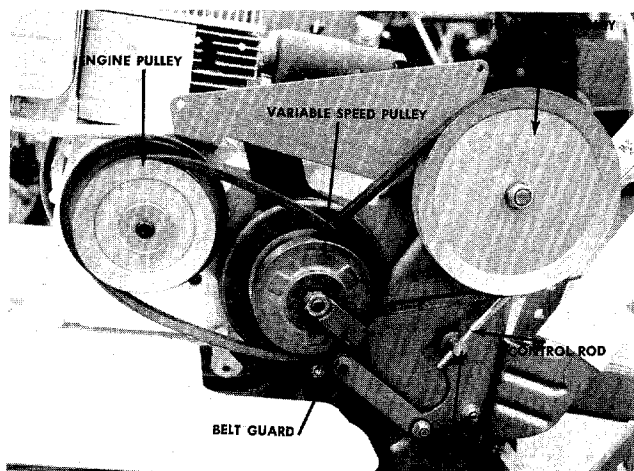

FIGURE 4-6. DRIVE SYSTEM
To check the belt adjustment, it is necessary to remove the belt cover so the belts are exposed as shown in Figure 4-6.
Step 1. Remove the belt cover so the belts are exposed as shown in Figure 4-6.